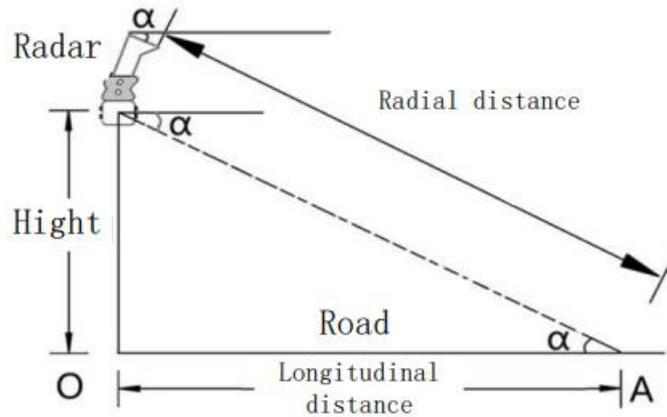
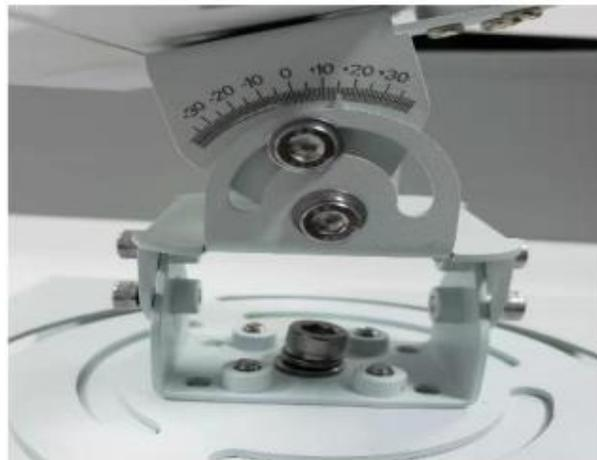

Figure 2 – Schematic diagram of radar adjusting pitch angle
Figure 5 – Pitch angle recording
The schematic diagram of radar elevation adjustment is shown in figure 2. H is the installation height of the radar, and α is the pitch angle of radar.
- 2) Combined with the actual installation height, as shown in Figure 2, adjust the radar attitude so that the radar pitch angle α is equal to the angle value given in table 1, and the final pitch angle is $(\gamma + \alpha)$ on the side scale, with the allowable error of $\pm 1^\circ$. If the radar is installed at an altitude of 7 meters H, the initial pitch angle is 0° , and the radar pitch angle $(\alpha + \gamma)$ is 15° (Figure 5).